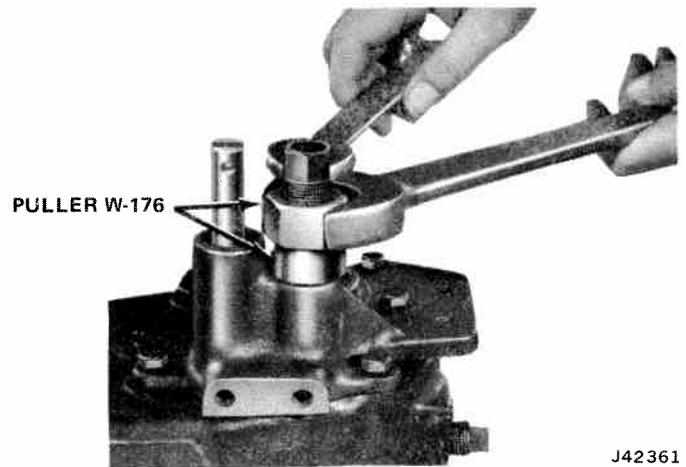

Fig. 8-12 Shift Rail Oil Seal Removal
- (1) Remove seals using Puller Tool W-176 (fig. 8-12).